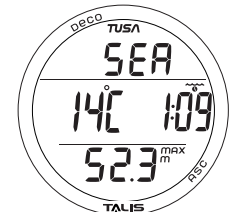

Fig. 53 - HISTORY 2
**History 2**, information includes (Fig. 53):